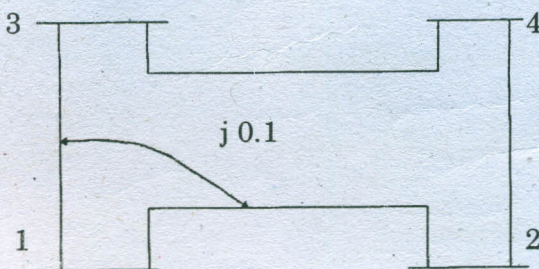

Fig. 2
- (b) Form  $Y_{bus}$  of the test system shown in fig.2 using singular transformation method. The impedance data is given in Table 1. Take (1) as reference node.